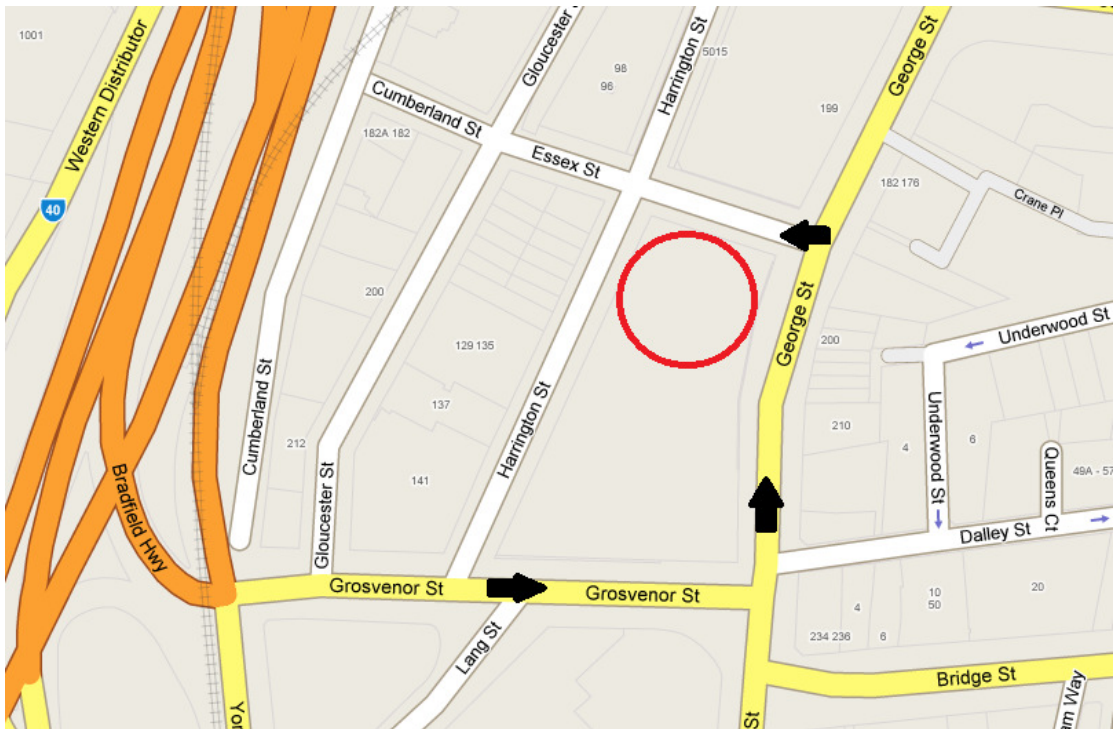

Figure 2 : Vehicular Access
- ❖ Refer to plan in Figure 2 below for vehicle movement to site.
- ❖ Main roads will be used to access the site, the most direct routes will be used, refer to Figure 2.